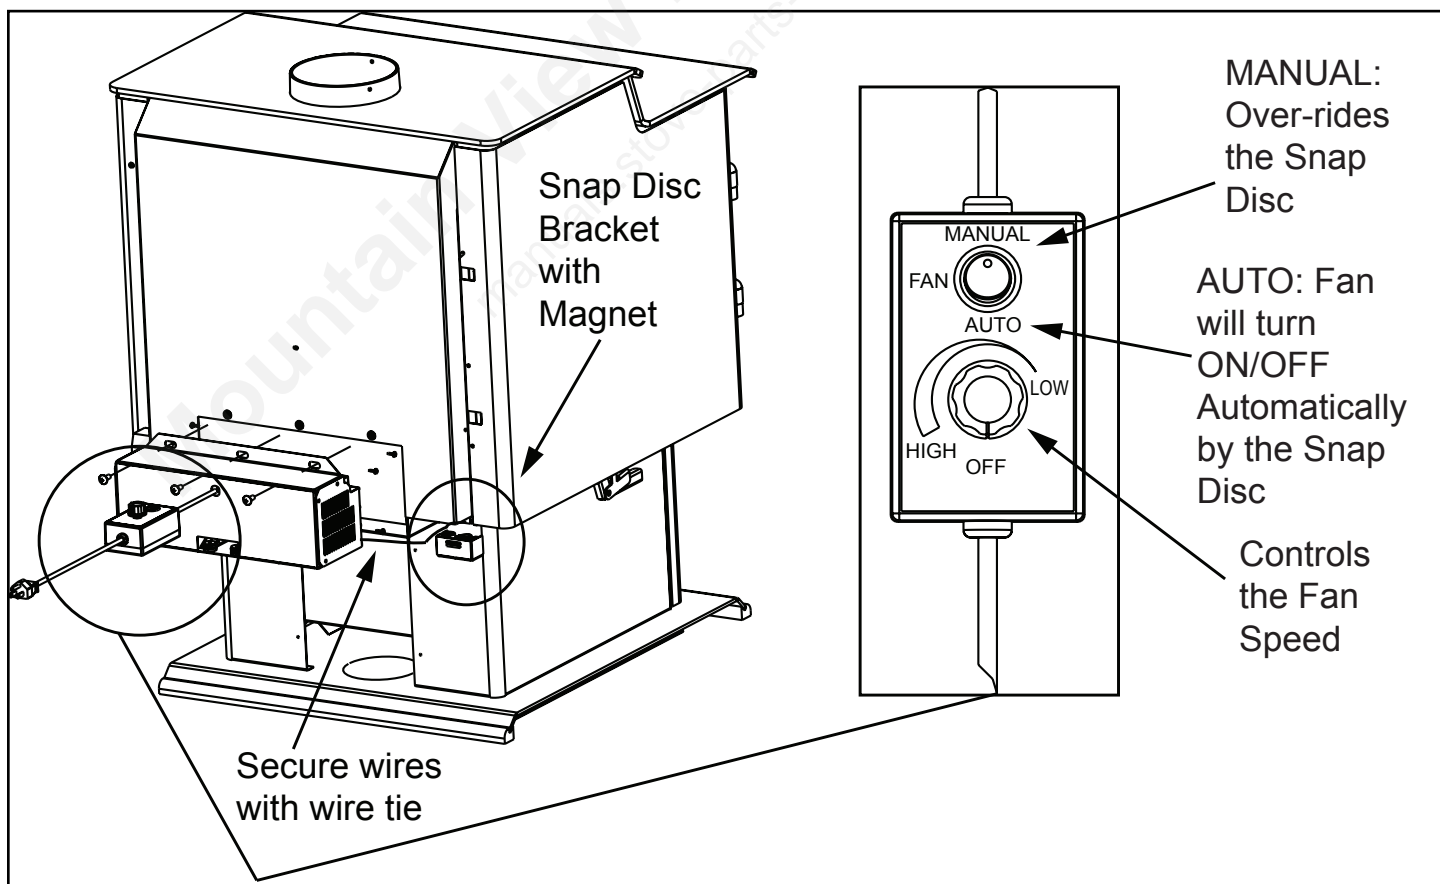

Figure 22.1
2. Align holes in mounting flange of blower with bolt holes in appliance. Blower should be positioned at bottom of rear outer skin as shown in **Figure 22.1**